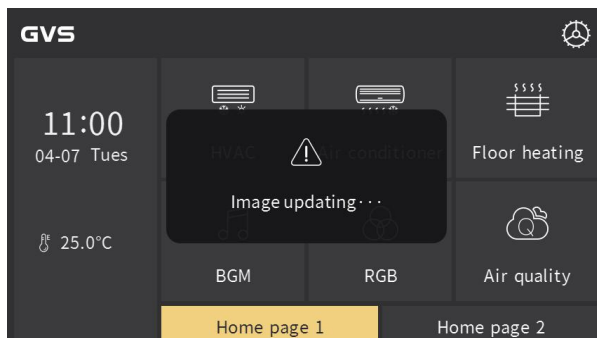
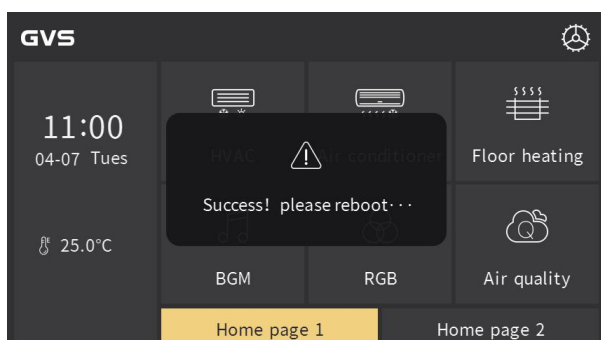
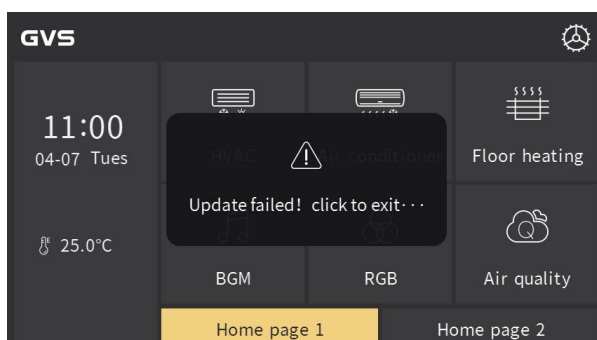
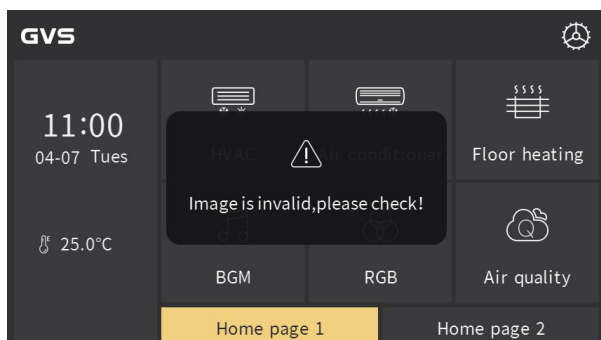

Fig.5.2
Fig.5.3
Fig.5.4
Fig.5.5
3. Click “Confirm” to update picture; after upgrade, there will pop up a window of the result, if upgrade is successful, reboot the device manually to apply the new page icons to the system; if upgrade is failed, click any area outside the window to return to the page, as shown in Fig.5.2, Fig.5.3, Fig.5.4 and Fig.5.5.